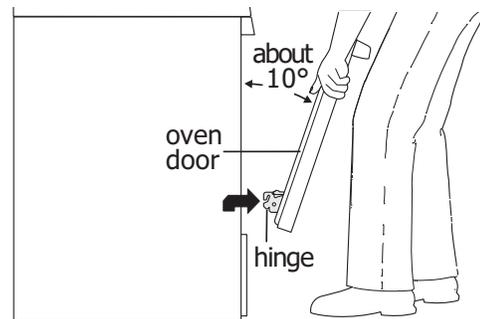
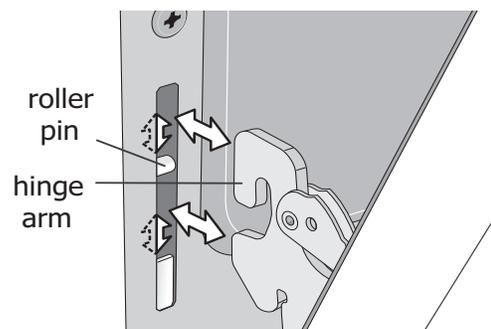

Figure 12: Holding door for removal
Figure 13: Location of hinge arm and roller pin
3. Firmly grasp both sides of oven door along the door sides. Do not use the oven door handle (See Figure 12).
4. Close the door to about 10 degrees from the door frame (Figure 12).
5. Lift the oven door hinge arms over the roller pins located on each side of the oven frame (See Figure 12).
1. Firmly grasp both sides of oven door along the door sides. Do not use the oven door handle (See Figure 12).
2. Holding the oven door at the same angle as the removal position (See Figure 12), seat the hook of the hinge arm over the roller pins located on each side of the oven door frame (See Figure 13). The hook of the hinge arms must be fully seated onto the roller pins.